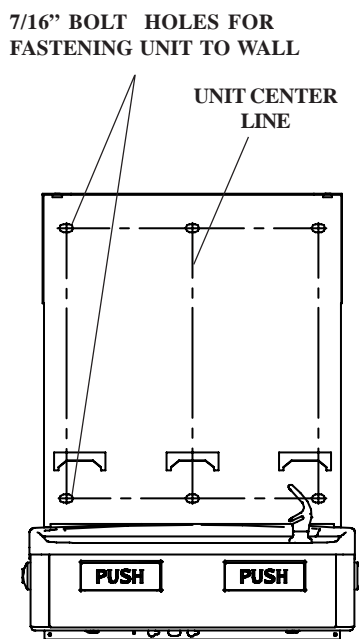

Fig. 2
- 2) Remove wall mounting plate from Bottle Filler. Place Wall plate against wall on top of HAC basin. Center the wall plate side to side with the HAC basin. Mark the six (6) mounting holes with a pencil (See FIG. 2).
- 4) Install wall mounting plate to wall using six (6) 7/16" obround mounting holes (mounting bolts not included) (See FIG. 2. Use appropriate fasteners for your wall type.